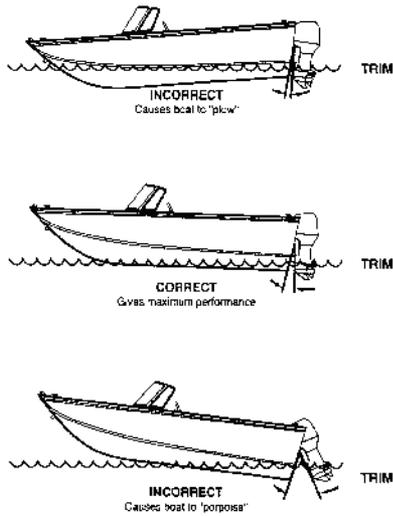

FIGURE 8-4 TRIMMING THE BOAT OUTDRIVE
4. If the bow is too high, the boat tends to "porpoise" (Figure 8-4) and the bow will bounce up and down on the water. The outboard is trimmed too far up (out). Trim down (in) to correct. The boat is trimmed correctly when it is just short of porpoising. If you are an inexperienced driver or are having difficulty correcting a porpoising condition, reduce your speed until the boat levels off.